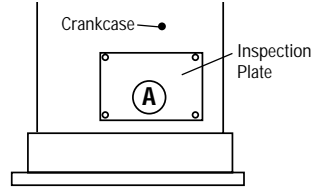
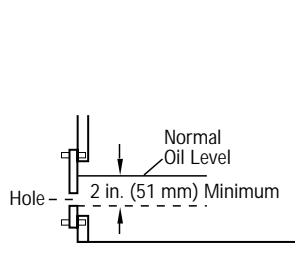

Figure 2
Figure 3
3. Drill and tap a 1/2 NPT female pipe thread into the inspection plate at point "A" (**Figure 2**). **CAUTION: Clean area of metal shavings.** The hole is to be a minimum of 2 in. (51 mm) below normal running oil level (**Figure 3**).
1. If installing into a thick wall crankcase, drill and tap a 1/2 NPT female pipe thread into the crankcase. **CAUTION: Clean area of metal shavings.** The hole is to be a minimum of 2 in. (51 mm) below normal running oil level (**Figure 3**).
If installing into a thin wall crankcase, drill a hole in the crankcase slightly larger than outside diameter of a 1/2 in. coupling. The hole is to be a minimum of 2 in. (51 mm) below normal running oil level (**Figure 3**). **CAUTION: Clean area of metal shavings.** Weld a half collar (1/2 NPT) into the hole.